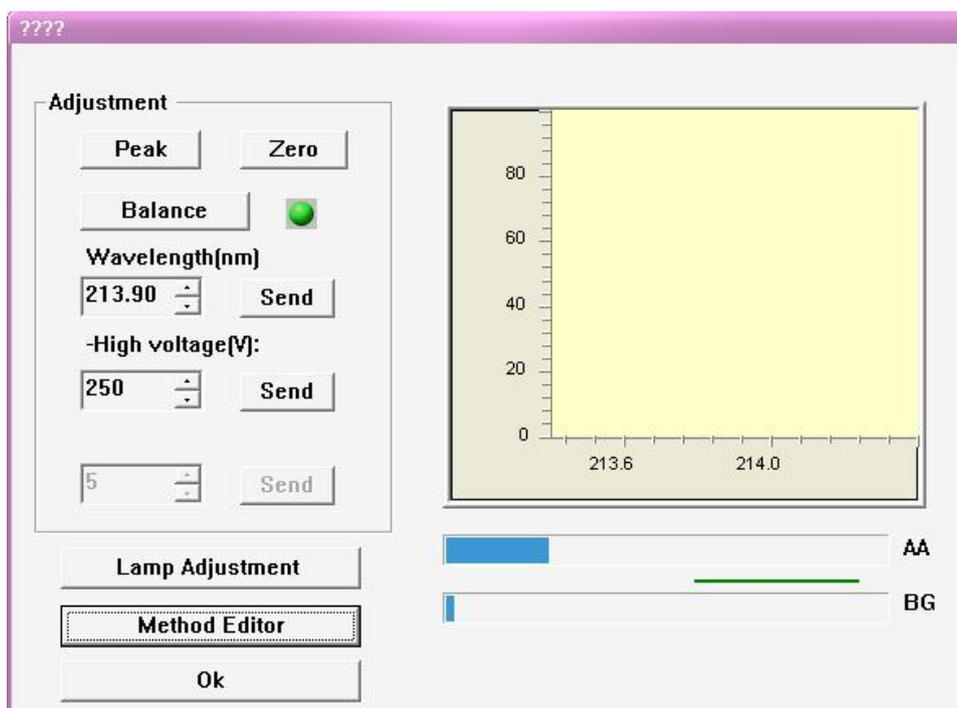

Figure 6-15
6. Press **【OK】** to align lamp,figure 6-15,see “Aligning lamps”